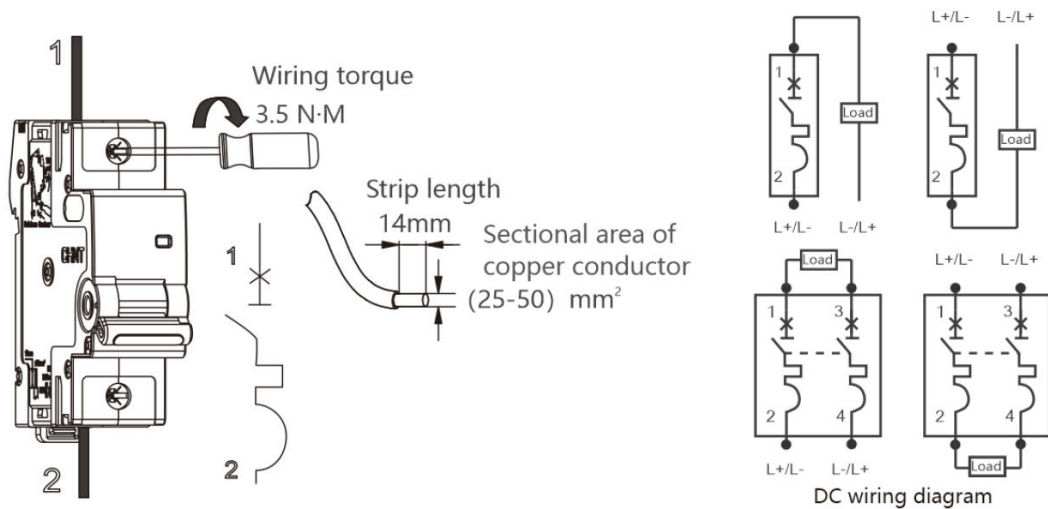

Figure 5 NB8-125 Connection Mode
5.4 Suitable for copper wire connection. See Table 3 for wire selection, and the wiring mode and stripping length are shown in Figure 5 below.